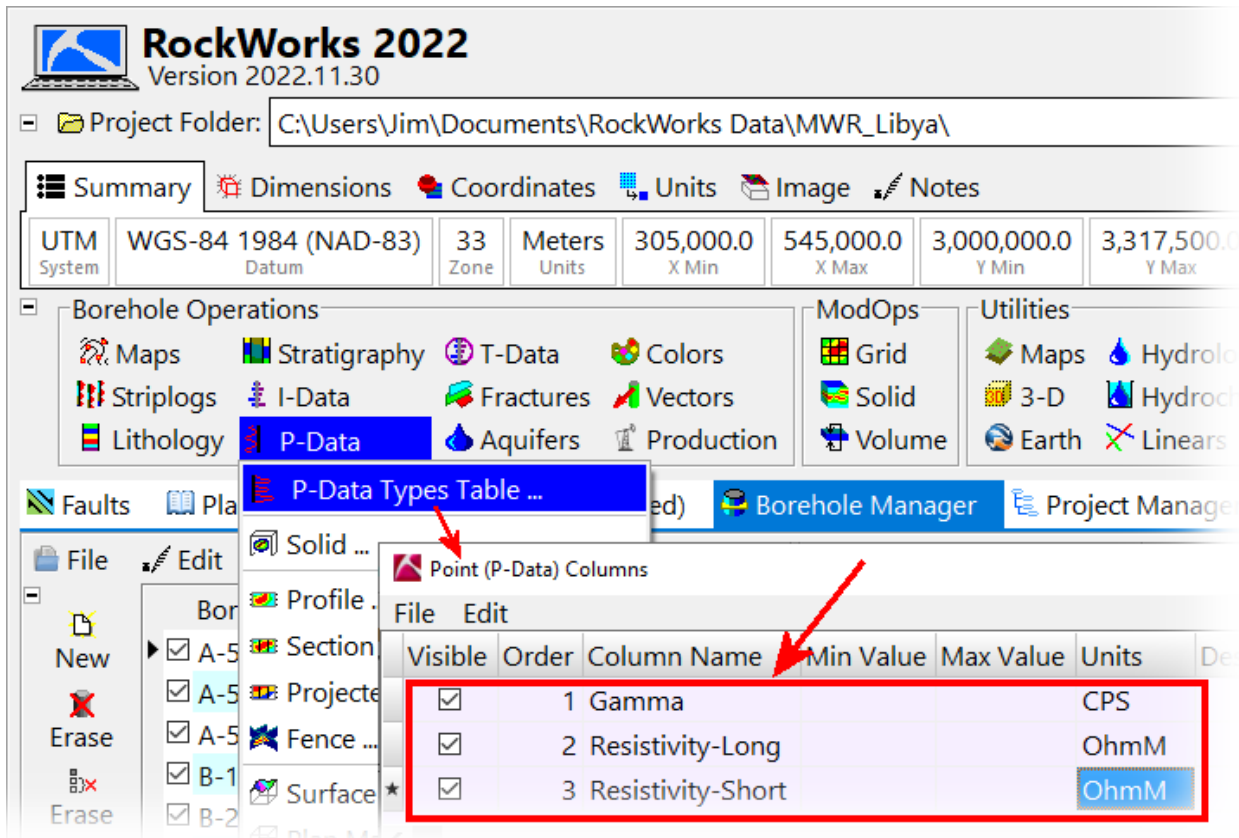

Figure 6
- Select the *RockWorks / Borehole Operations P-Data / P-Data Types Table* option (Figure 6), and enter the titles for any tracks that you want to import that are not already listed within the table.